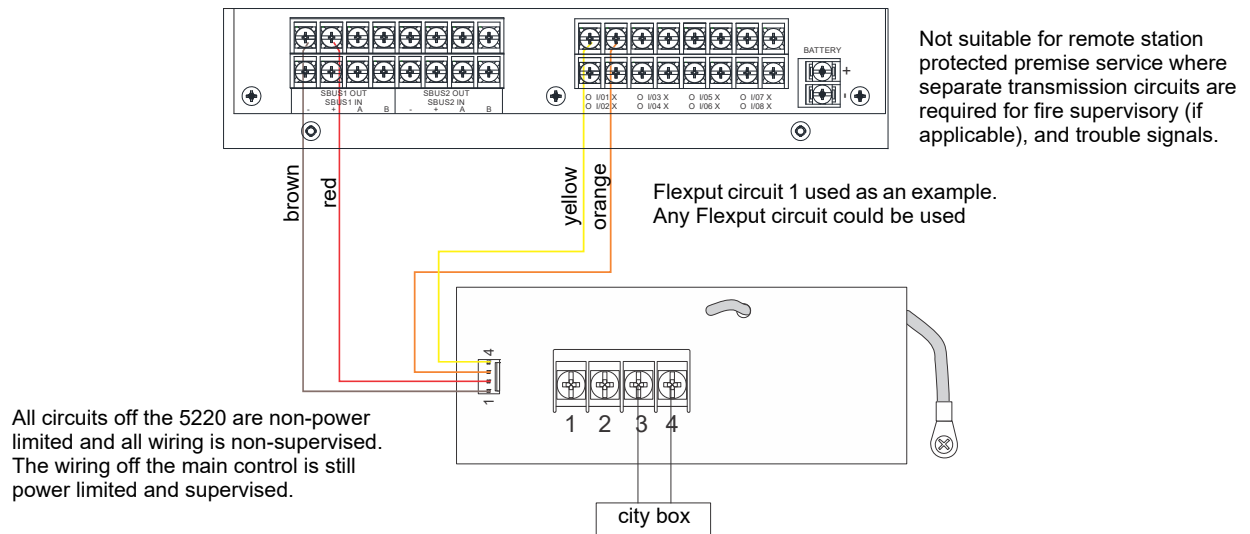

Figure 4.54 City Box Connection
- Wire the 5220 to the control panel as shown in Figure 4.54. This drawing also shows how to connect the city box coil to terminals 3 and 4 on the 5220. Do not install an EOL resistor in the terminals of the Flexput circuit used for this application.